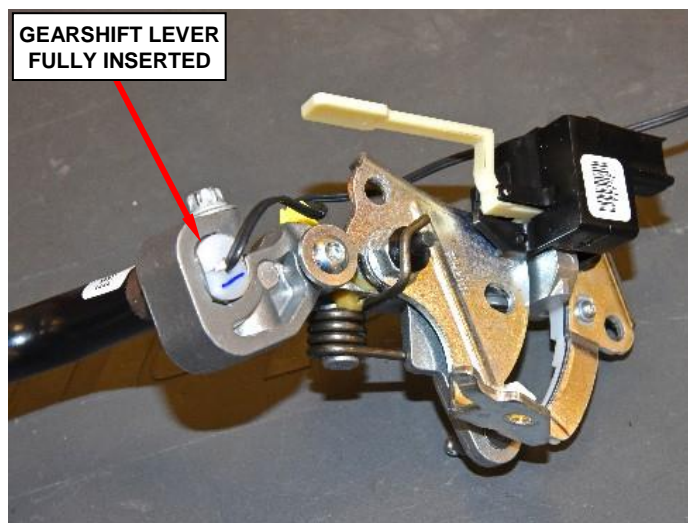

Figure 15 – Gearshift Lever Insertion
26. Install the gearshift lever to the **new** gearshift bracket / BTSI assembly and ensure the gearshift lever is fully inserted into the gearshift bracket (Figure 15).